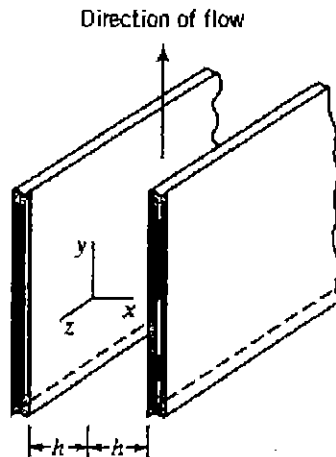

Fig. 2.
2. Between two infinite, vertical, parallel plates, a fluid flows upwards as shown in Fig. 2. Assume the flow is steady, laminar, incompressible and uniform with viscosity of μ and density of ρ .